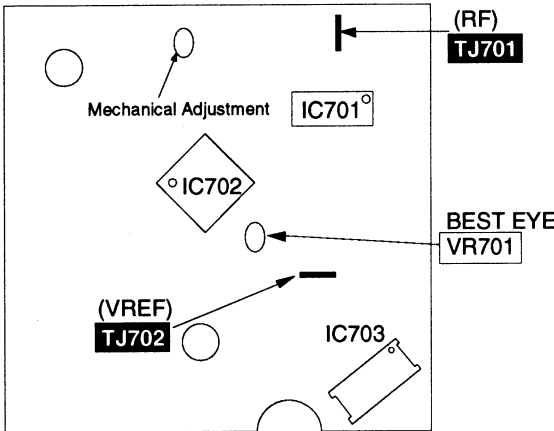

Fig.1
- Adjust VR701 until the RF signal eye pattern amplitude is maximized. (Refer to Fig. 1 on page 10)
(3) CHECK OF PLAY OPERATION AFTER ADJUSTMENT